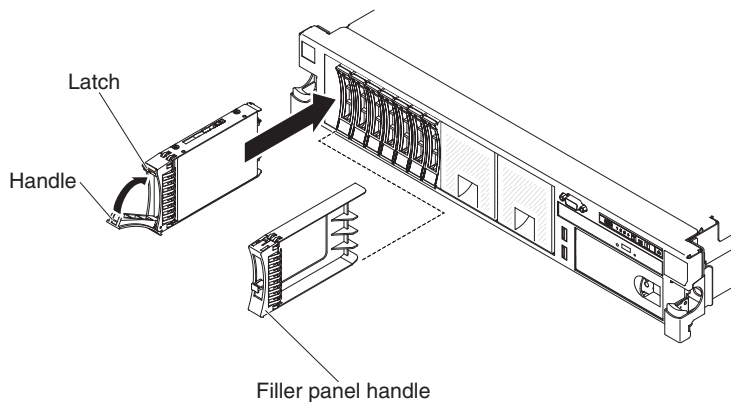

Figure 88. Replacing a SAN Volume Controller 2145-DH8 boot drive
4. Make sure that the disk-drive handle is in the open (unlocked) position, as shown in Figure 88.